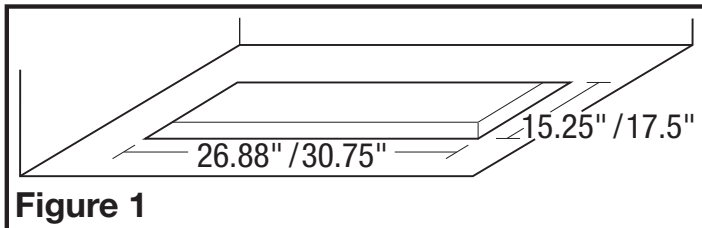

Figure 1
- PIN30:** Cut a hole 30.75" wide by 17.5" deep into the cabinet or canopy the power unit will be mounted into (**Figure 1**):